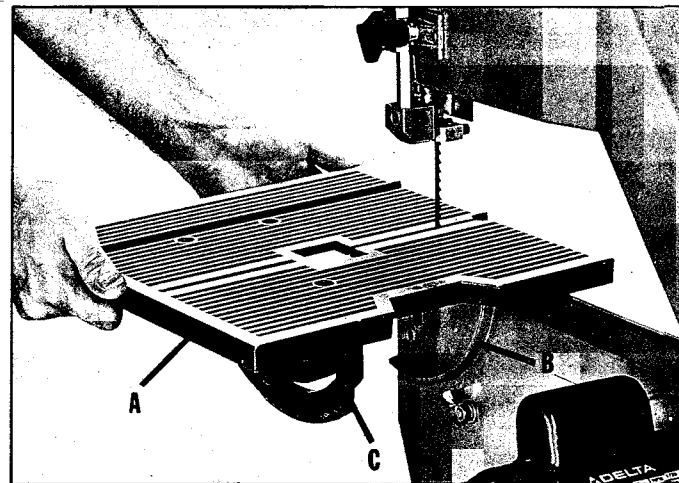

Fig. 2
1. Place table (A) onto band saw frame making sure the blade travels through the slot in the table and that the mounting rib (B) on the frame engages with the groove on the inside of the trunnion (C) Fig. 2.